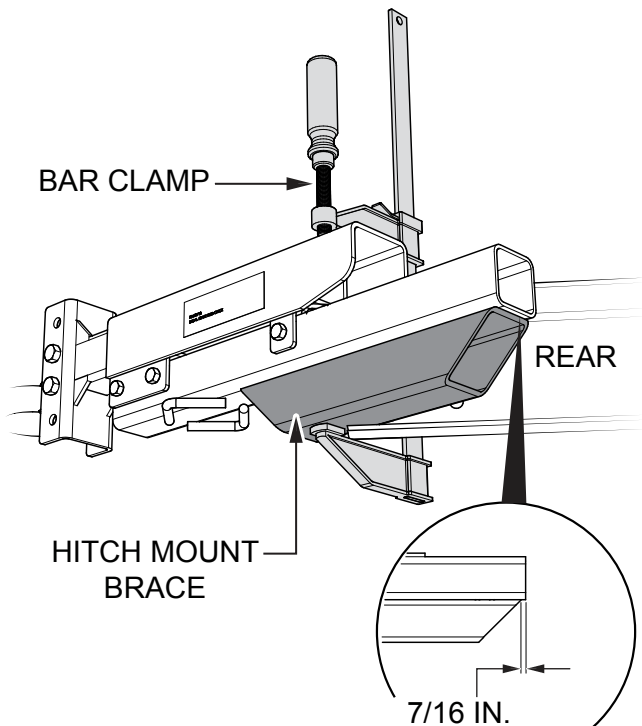

Figure 5. Hitch Mount Brace Placement
4. Position the brace so that 7/16" clearance exists between the trailer frame and the rear section of the brace as shown in Figure 5.
5. Once the hitch mount brace has been correctly positioned, secure brace in place with bar clamp as shown in Figure 5.